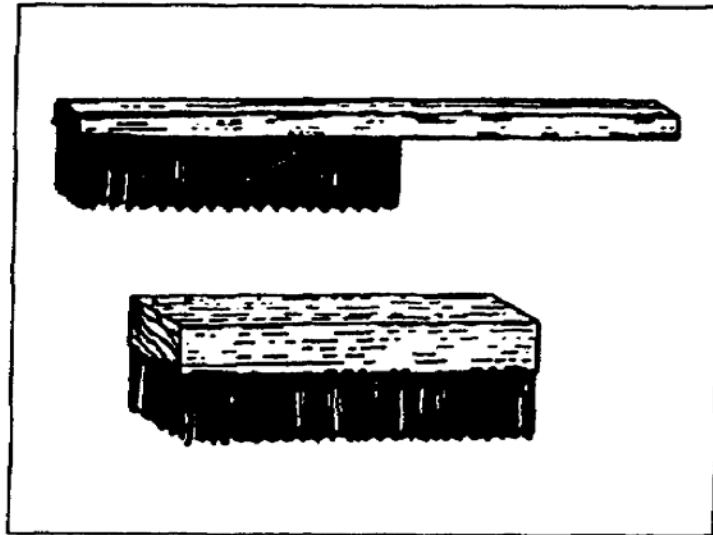

Figure 3-1. Hand wire brushes
a. **Wire Brushes.** Hand wire brushes (Figure 3-1, page 3-2) are used to remove loose paint from wood, masonry, or metal surfaces that are situated in close places and where power equipment cannot be operated economically. The brushes are made of different sizes